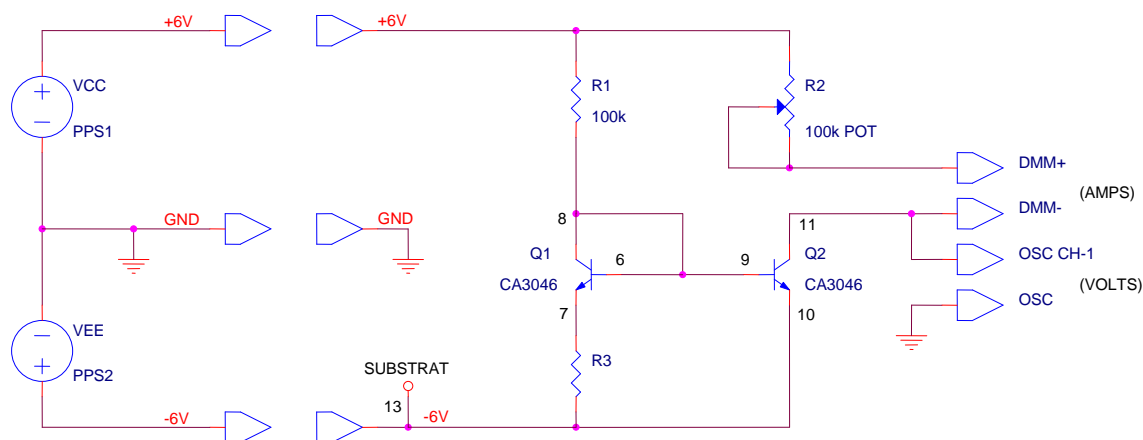

Figure E3.2b
More Set-up Turn the dual DC power supply OFF, and replace R3 on the emitter of Q2 with a wire. Add a new resistor R3 in series with the emitter of Q1, as shown in Fig. E3.2b.
When R3 is under the emitter of Q1 as shown in Fig. E3.2b, the voltage drop across R3 makes $V_{BE2} > V_{BE1}$, for which $I_{C2} > I_{C1}$. This is a boosting Widlar current source. The value of R3 to obtain a specific current from the Widlar current source is given by $R3 = [V_T \ln(I_{C2}/I_{C1})]/I_{C1}$. Calculate the value of R3 for this Widlar current source to produce $I_{C2} = 1$ mA. You should obtain a value in the range of 400-500 Ω . (you might need to select resistor closed to calculated value that produce $I_{C2} = 1$ mA since the calculated resistance is not that accurate). Locate a standard resistor close to your calculated value and insert it into the breadboard.
- (b) Calculate the output resistance of the boosting Widlar current source of Fig. E3.2b.